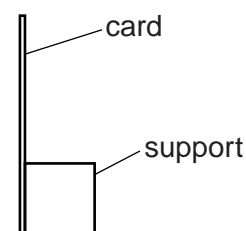

Fig. 4.3
- (iv) Screen. A white sheet of stiff card approximately 15 cm × 15 cm, fixed to a wooden support is suitable. See Fig. 4.3.